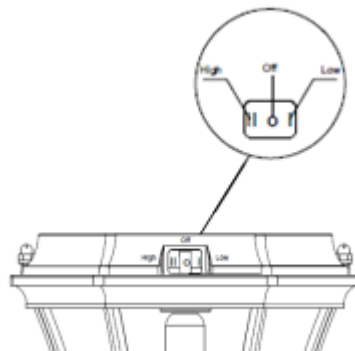

Fig. 1
1. Turn the On/Off switch on the lamp head (A) to Low or High position (Fig. 1).
2. Use electric drill to make three holes into a solid surface no smaller than the fastening screws (G). The holes shall be lined up with the holes of the lamp base (F).